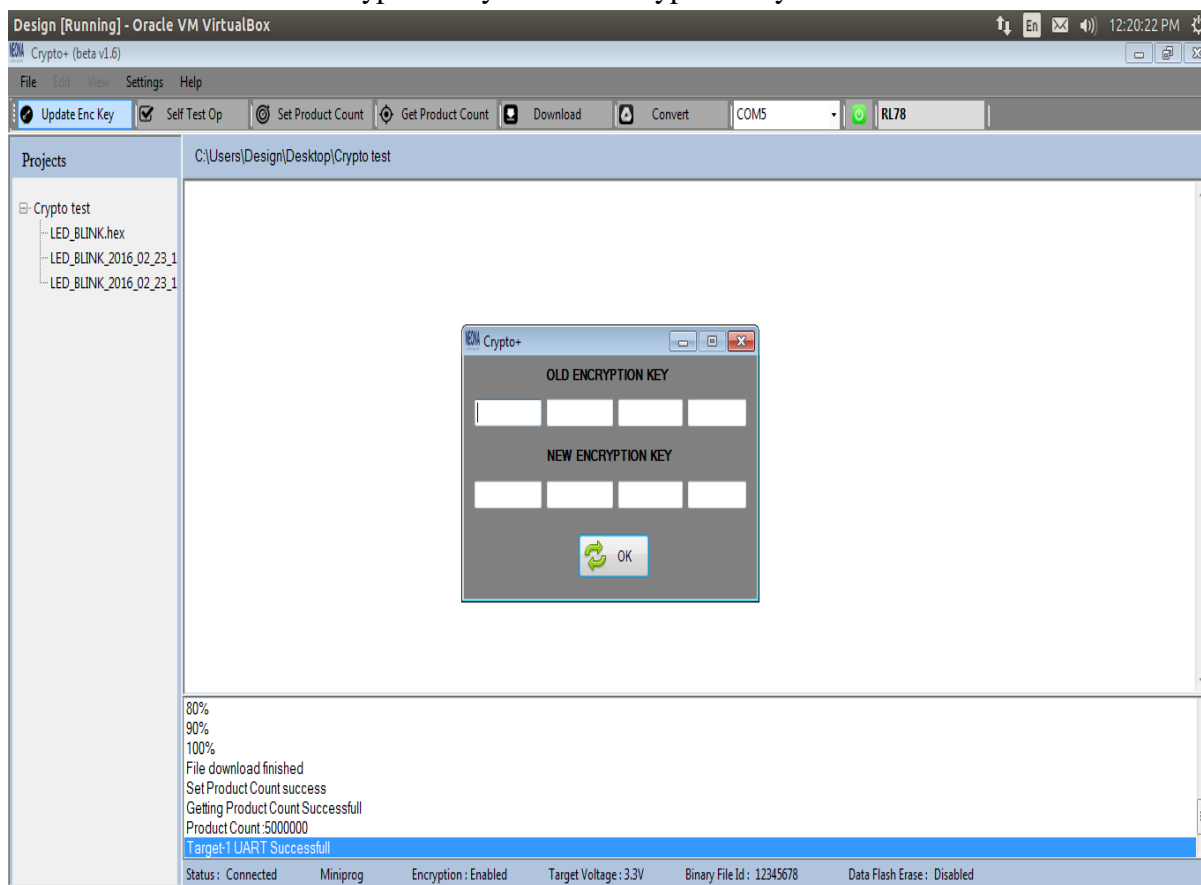

**Figure 2.38**
**STEP 2:** Click on **Self Test Op** as shown in figure 2.38.
**STEP 3:** Each target's status will appear in text view as shown in figure 2.38.